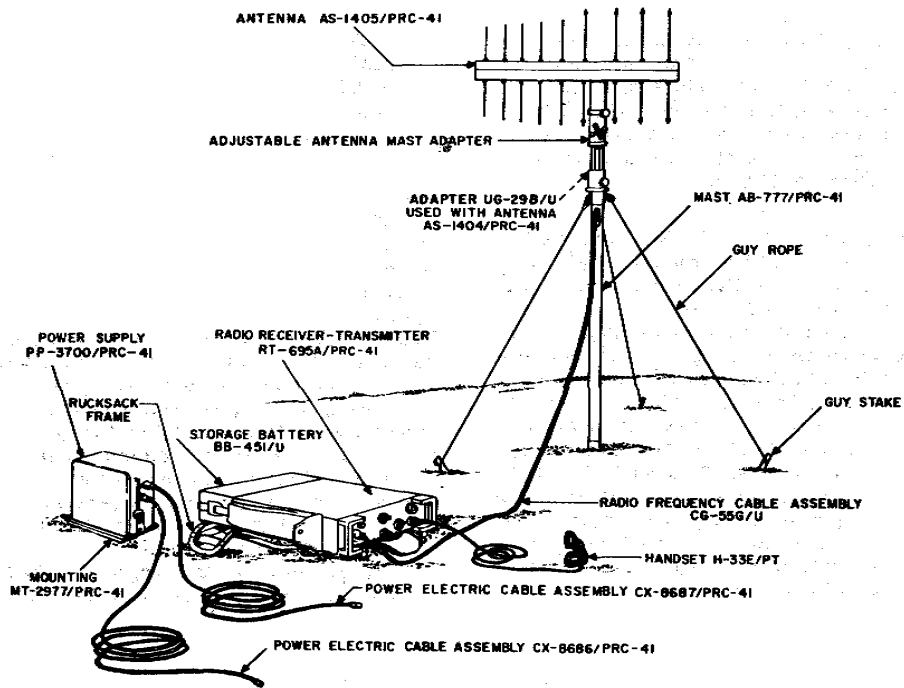

Figure 2-6. Radio Set AN/PRC-41A, Fixed Station Installation
b. FIXED STATION INSTALLATION. (Refer to figure 2-6.) - Radio Receiver-Transmitter RT-695A/PRC-41 may be supplied power by Power Supply PP-3700/PRC-41, Storage Battery BB-451/U, or by vehicular battery supply for a fixed station installation. A fixed station installation may use either Antenna AS-1404/PRC-41 or AS-1405/PRC-41 mounted on Mast AB-777/PRC-41. Radio Frequency Cable Assembly CG-55G/U must be fitted up through Mast AB-777/PRC-41 and connected to Antenna AS-1405/PRC-41 or through Adapter UG-29B/U to Antenna AS-1404/PRC-41. Connect the other end of Radio Frequency Cable Assembly CG-55G/U to antenna connector J28 on the front panel of the RT-695A/PRC-41. Connect Handset H-33E/PT to H-33E/PT connector on the RT-695A/PRC-41.
(1) ANTENNA MAST INSTALLATION. - Rig the antenna mast as follows: